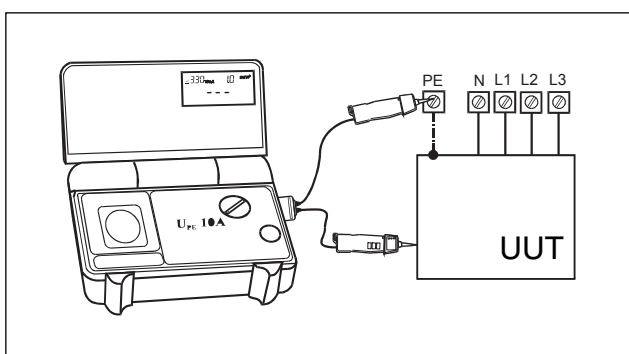

Fig.6.2
- Connect COMMANDER 2 test probes (use measurement accessories, if required) to UUT, as shown in Fig. 6.2: